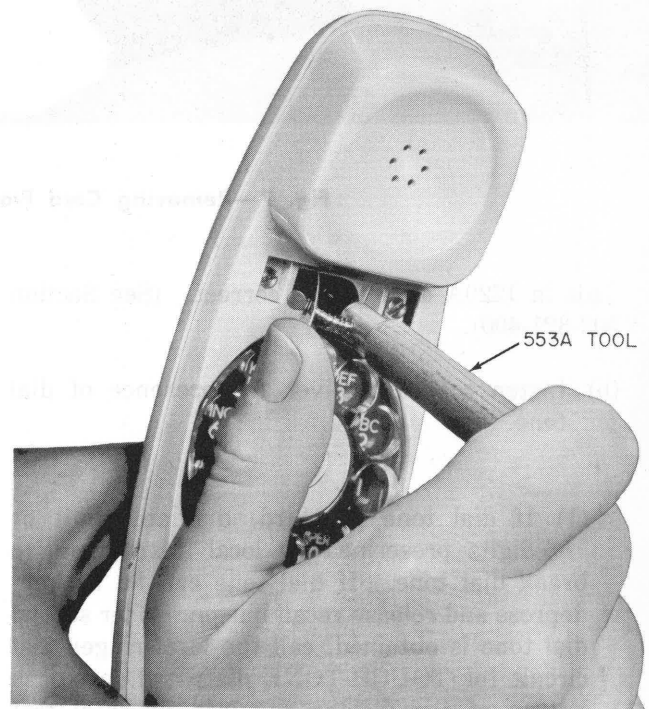

Fig. 6—Replacing Dial Lamp
- (a) **Dial Lamp:** To replace a defective dial lamp (Fig. 6), use 553A tool. To gain access to the lamp, remove number card retainer, number card, and light-seal plate.